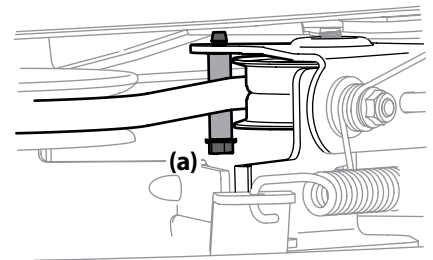

Figure 4-10
6. Remove the belt keeper (30" decks only) by removing the hex bolt (a) that secures it. See Figure 4-10.